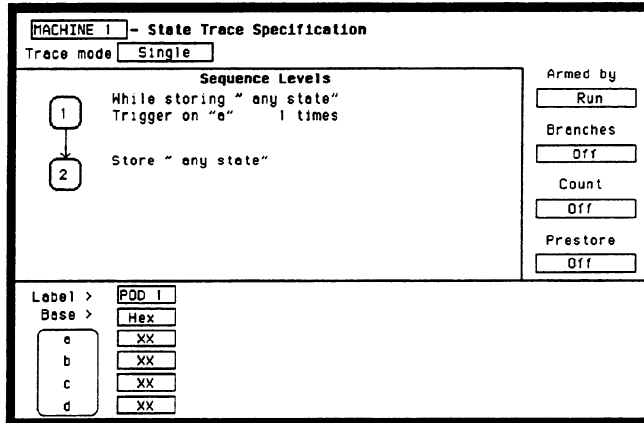

Figure 3-14. Trace Specification for Data Test 2
- Set the **State Trace Specification** without sequencing levels and set **Count** to **Off** as in figure 3-14.
5. Set the **State Trace Specification** without sequencing levels and set **Count** to **Off** as in the previous test figure 3-14.